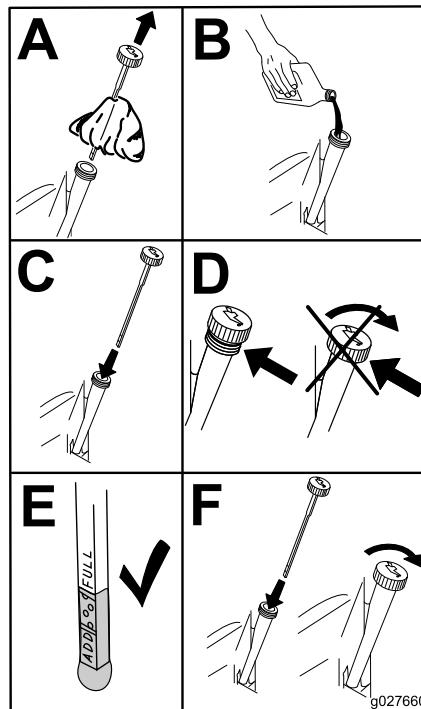

Figure 58
5. Slowly pour approximately 80% of the specified oil into the filler tube and slowly add the additional oil to bring it to the **Full** mark (Figure 58).